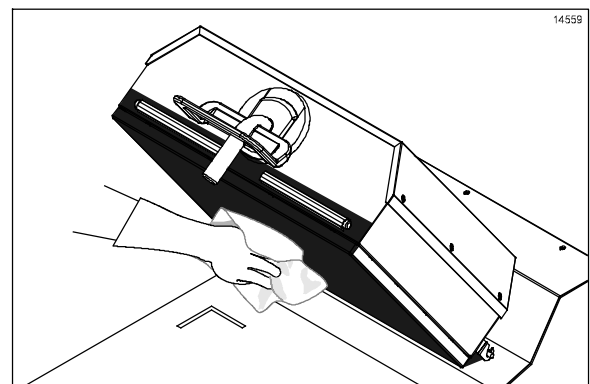

Figure 14
4. Wipe the exposed surface of the release sheet with a clean, sanitizer-soaked grill cloth. (See Figure 14.)